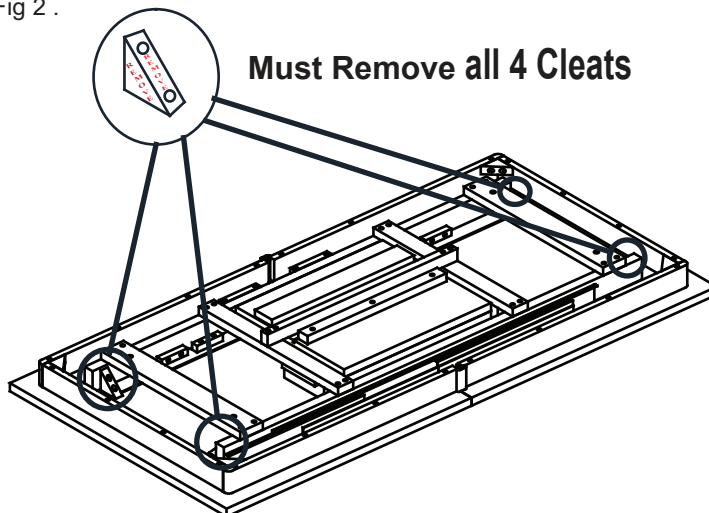

Fig.2
2.1- Place the Table Top upside down on a soft Protective surface such as a carpet. Remove cleats as shown on Fig 2 .